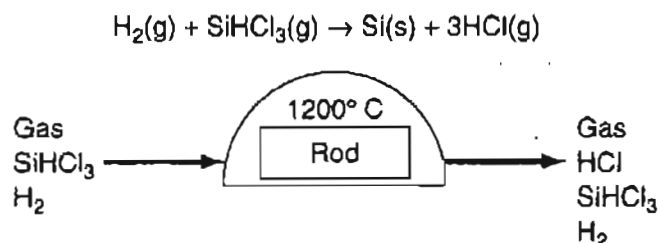

Figure P10.2
- *10.2 One of the most common commercial methods for the production of pure silicon that is to be used for the manufacture of semiconductors is the Siemens process (see Figure P10.2) of chemical vapor deposition (CVD). A chamber contains a heated silicon rod, and a mixture of high purity trichlorosilane mixed with high purity hydrogen that is passed over the rod. Pure silicon (EGS-electronic grade silicon) deposits on the rod as a polycrystalline solid. (Single crystals of Si are later made by subsequently melting the EGS and drawing a single crystal from the melt.) The reaction is: $H_2(g) + SiHCl_3(g) \rightarrow Si(s) + 3HCl(g)$.